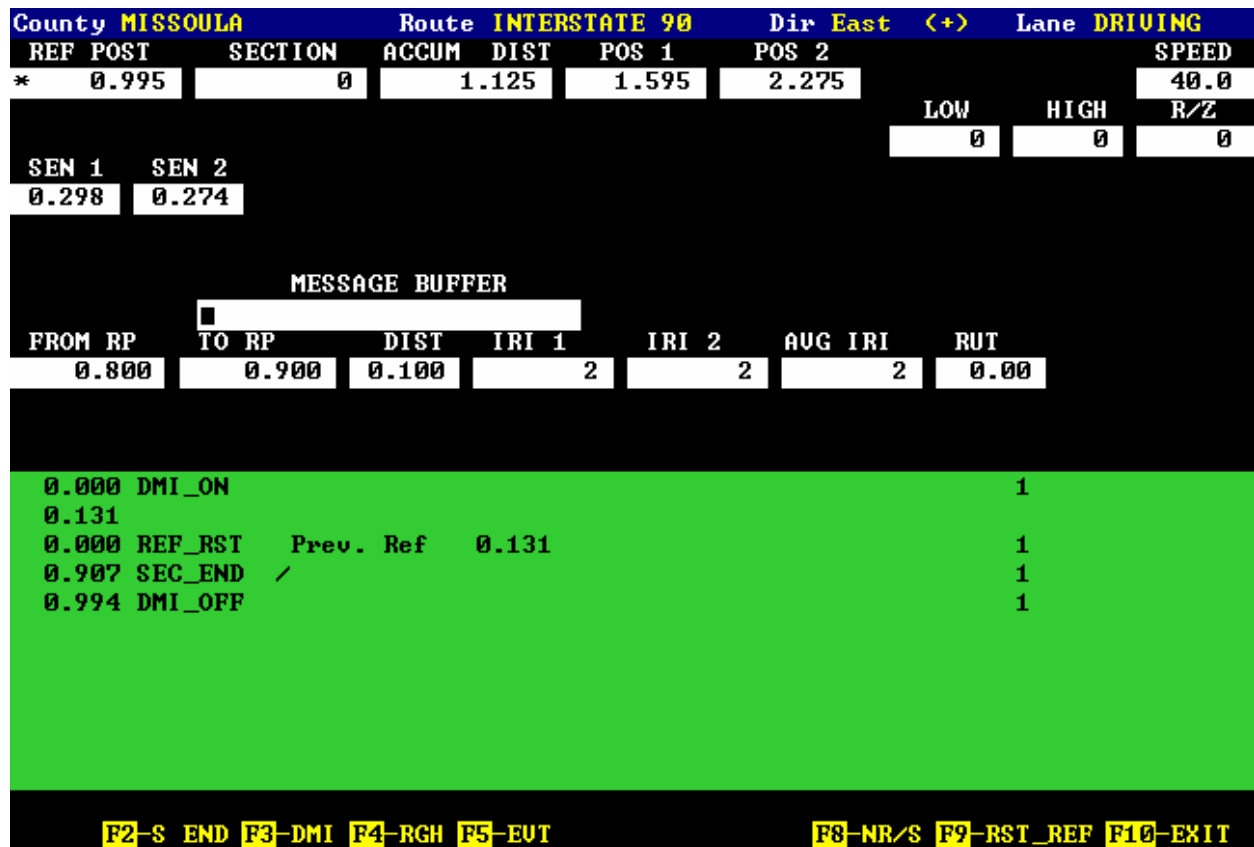

Figure 4-7. MDR Software Run Screen for Pre-Run Bounce Test.
- In the Run Menu, highlight 'Go' and press 'Enter' key to begin the bounce test. The monitor will display the Run Screen similar to that shown in Figure 4-7.